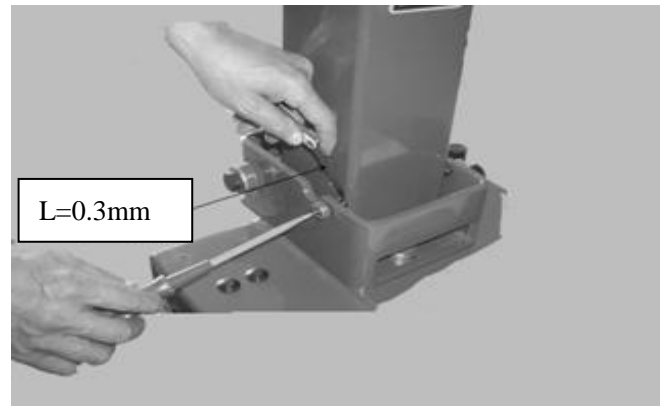

Fig 4-10
4.2.13 Adjust the set screw at the 2sides of the column. Release the nuts at the 2sides. Adjust the screw heads making the gap between them and the side plane of the column is 0.3mm (Fig4-10) . Lock the nuts.